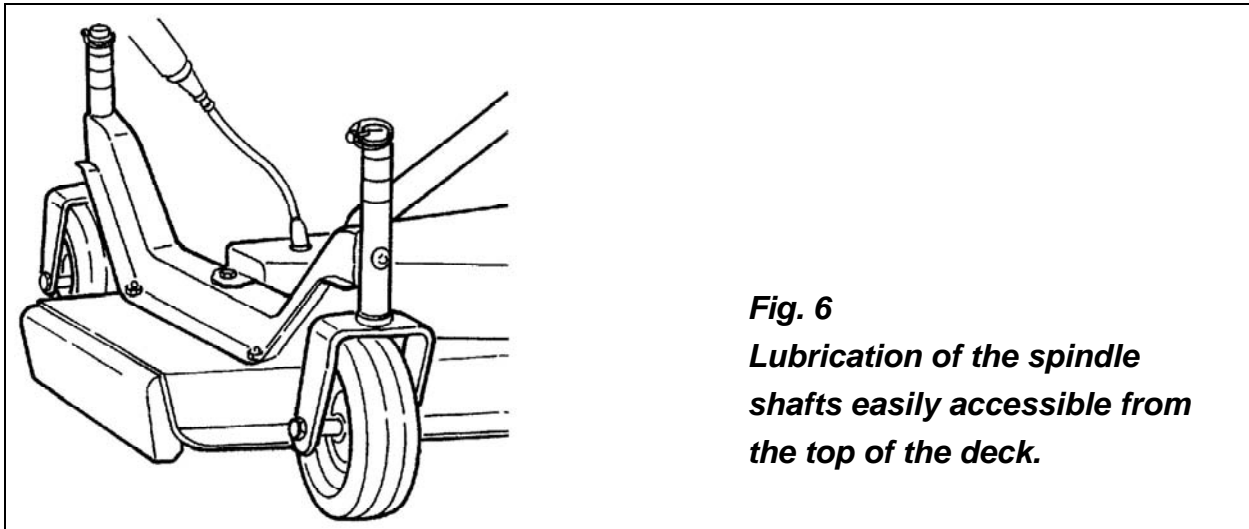

Fig. 6
1. Lubricate the three spindles with two or three shots of multipurpose grease (**see fig. 6**). The top grease fittings are easily accessible from the top of the deck by simply removing the plastic dust guards.